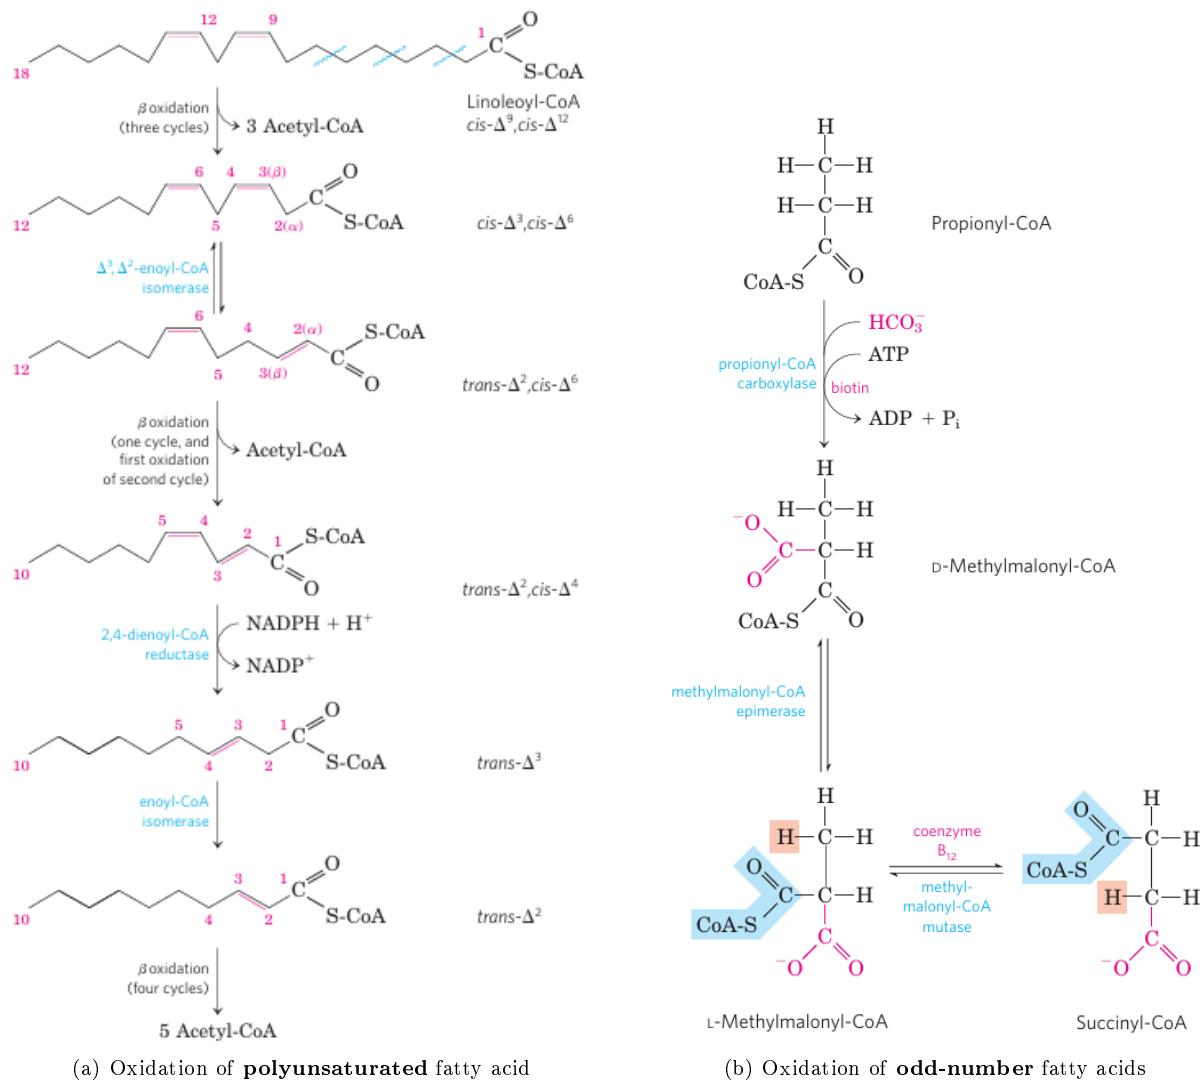

Figure 29: FA oxidation overview
*Remark 1.17 (Unsaturated FAs).* In the case of unsaturated fatty acids, two more enzymes are required (see fig. 29(a)):
- For **polyunsaturated FAs (2)** **2,4-dienoyl-CoA reductase** has to be used. It reduces 2 double bonds to one, **consuming an NADPH**. Following this step, the **enoyl-CoA isomerase** can act on the substrate and make it degradable by  $\beta$ -oxidation.
The enzyme **propionyl-CoA carboxylase** is used to produce D-methylmalonyl-CoA, which can be converted through two further reactions to succinyl-CoA. **Succinyl-CoA** can then enter the TCA cycle. See fig. 29(b)